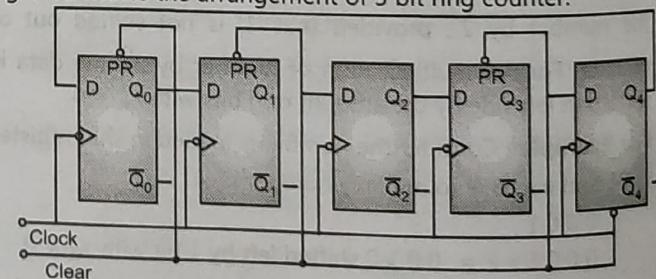

Fig. 3.51
- There are 5 bits in the given initial state, so we have to use 5 flip flops as shown in Fig. 3.51.
Fig. 3.51 shows the arrangement of 5 bit ring counter.